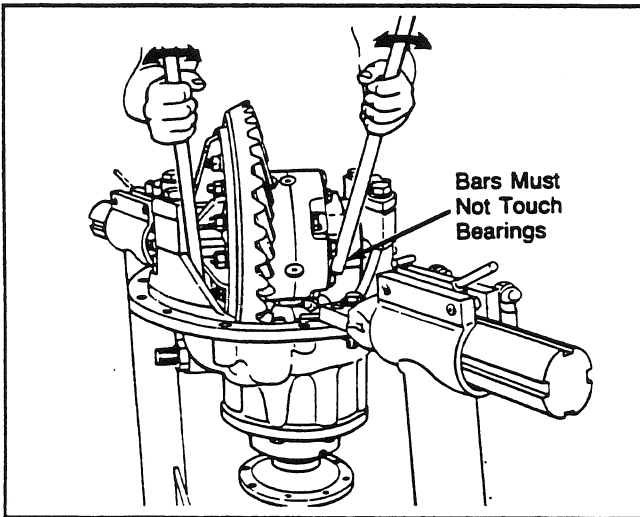

Fig. 68
- b) Use two pry bars installed between the differential case or ring gear and the carrier at places other than described in step a). The pry bars must not touch the differential bearings (see Fig. 68).